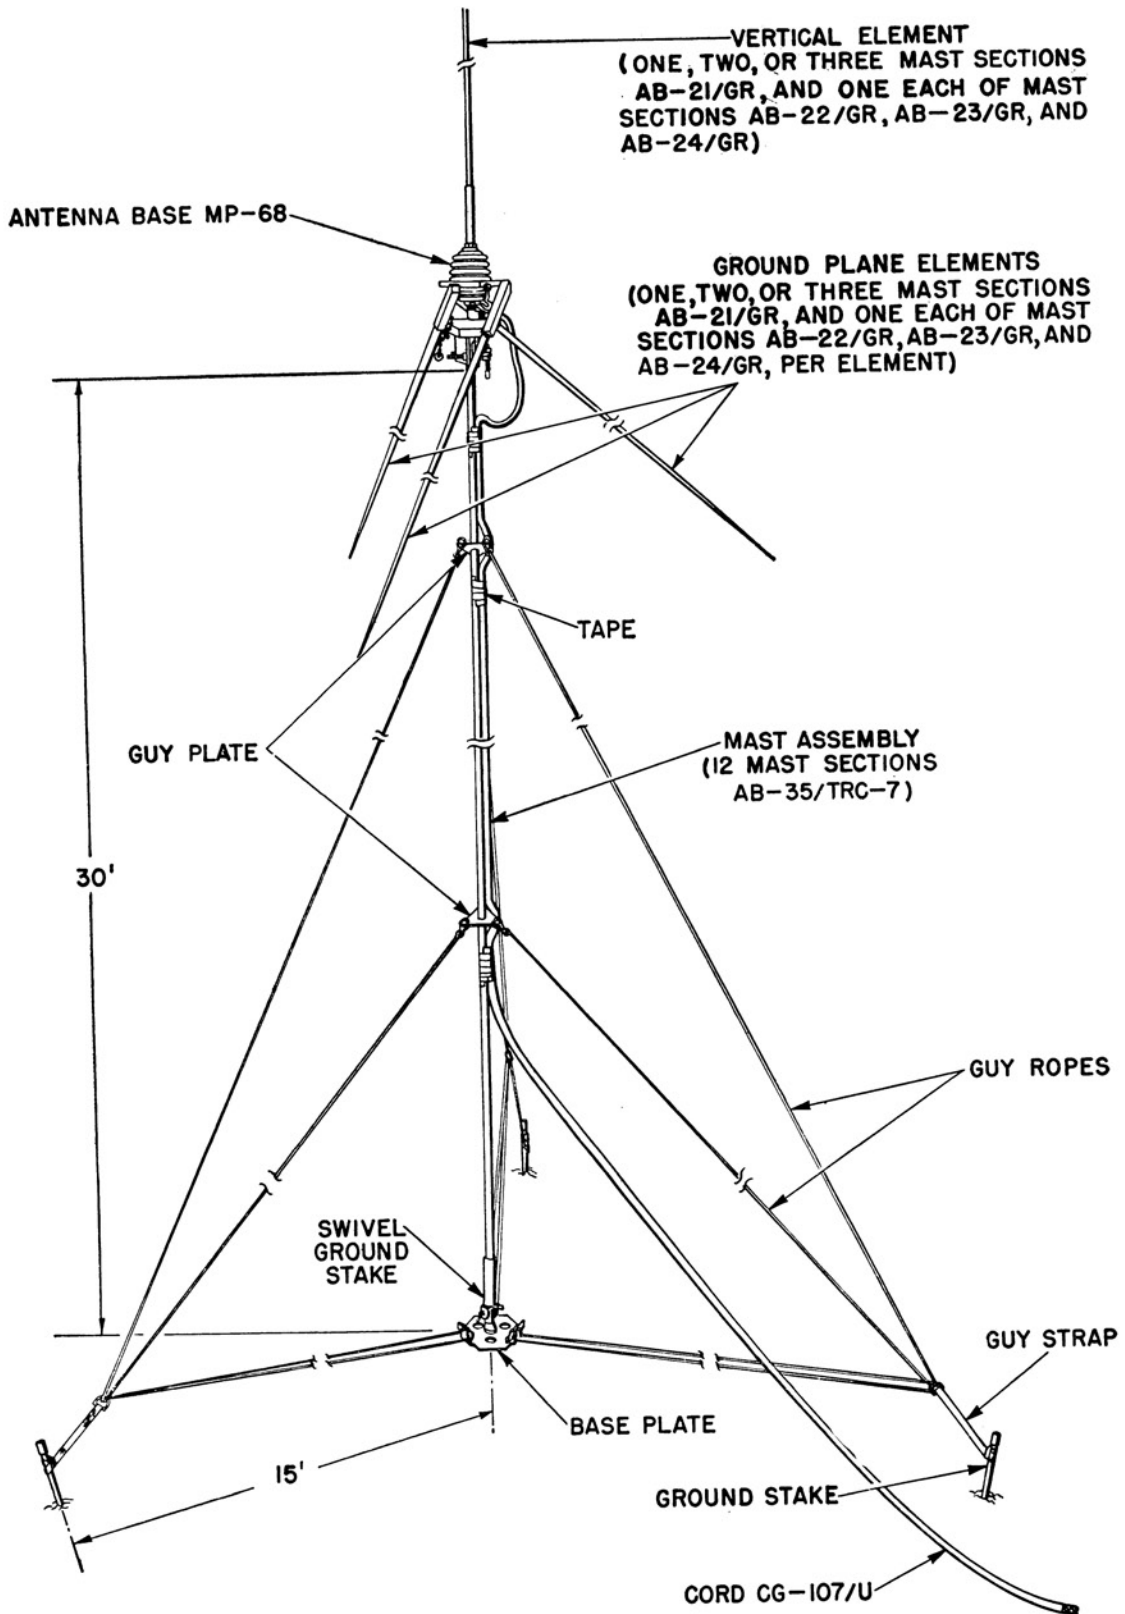

Figure 33. Antenna Equipment RC-292.
a. Antenna Equipment RC-292 (fig. 33) is an elevated, wide-band, modified ground plane antenna which can be used as an auxiliary antenna with Radio Sets AN/PRC-8, -9, and -10 to increase the distance range. The antenna consists of one vertical radiating element and three ground plane elements which make an angle of  $142^\circ$  with the vertical element. The lengths of the elements can be preadjusted for best performance with each of the above radio sets. The antenna is elevated on a 30-foot sectional mast which is held erect by guy ropes and ground stakes. The equipment is